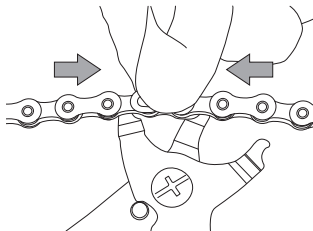

Fig.11
- Compress the C-Link™ by pushing on both sides (inner and outer) and simultaneously operate the callipers to bring the two pins closer together (Fig. 11).